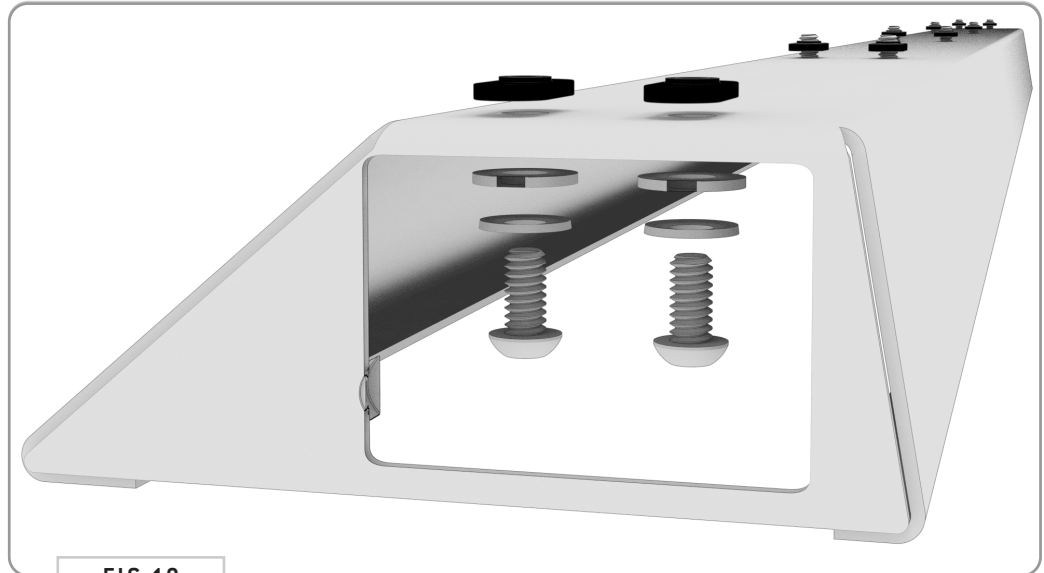

FIG 18
**6.1 Spoiler Assembly:** Stack a 1/4-20" x 0.5 Button Head Screw, 1/4" Belleville Lock Washer and 1/4" Flat Washer as shown in FIG 18 and insert into the ten available top holes of the **Rear Spoiler**. Loosely assemble using a **T-Nut**. You'll only want to screw the **T-Nuts** on a little in order to provide clearance for the next step.